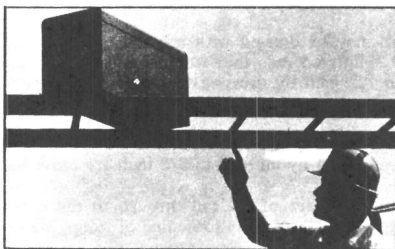

FIGURE 13.
6.04 Repeat the procedure in paragraph 6.03 with the weight placed at the midpoint of the ladder section. See Figure 13.